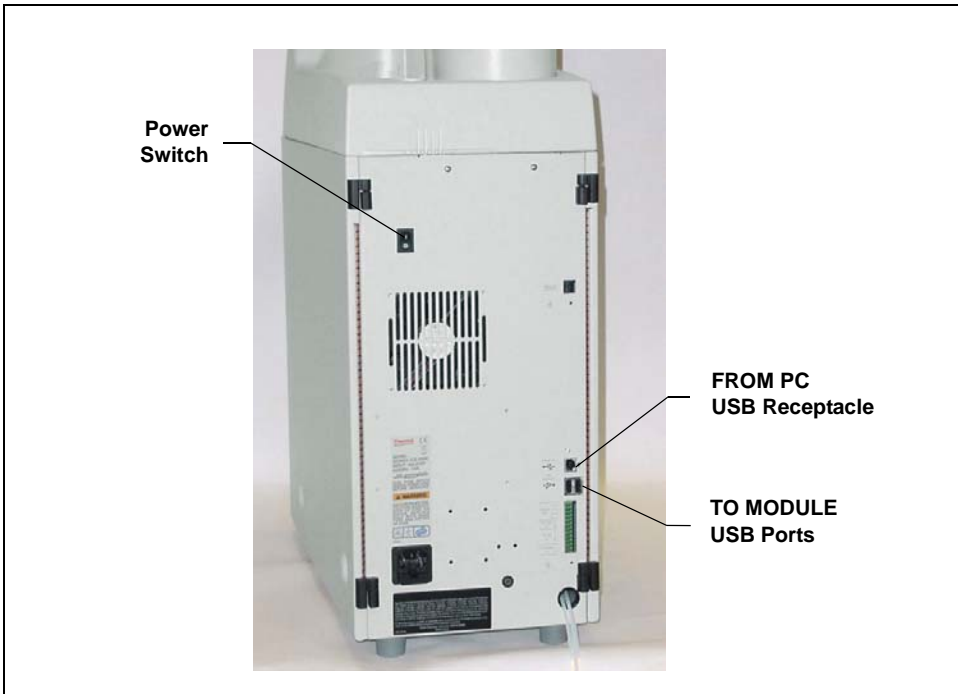
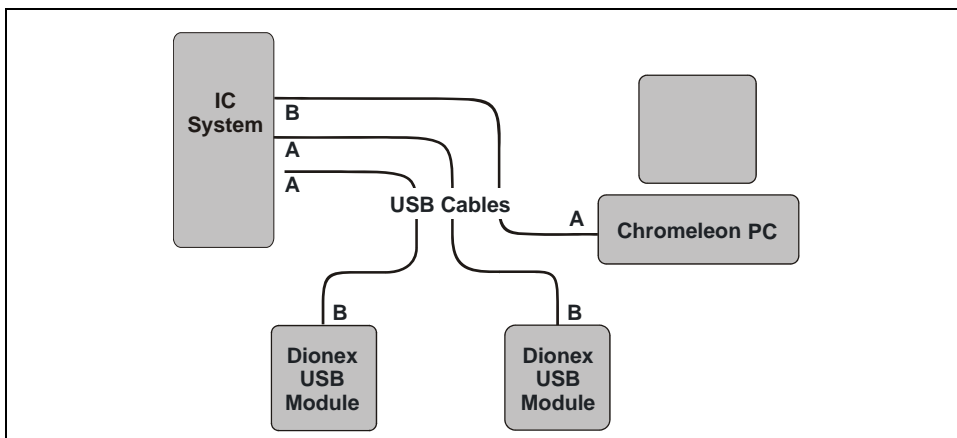

Figure 13. IC System Rear Panel
Figure 14. Example USB Connections: Two Dionex USB Modules Connected to the IC System
panel (see Figure 13) and plug the cable's "B" connector into the USB receptacle on the other USB module (see Figure 14).
1. Verify that the main power switch on the rear panel of the Dionex ICS-2100 (see Figure 13) is turned off. (The main power switch may be turned on accidentally when the module is unpacked.)
4. Press the power switch on the Dionex ICS-2100 rear panel (see Figure 13) to turn on the power.